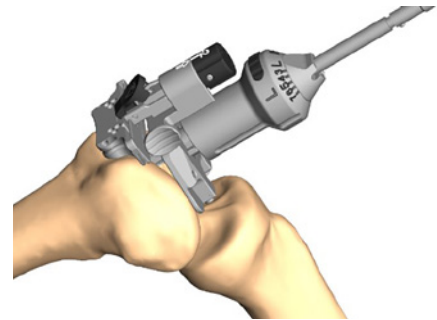

Figure 6
2. Slide the Intramedullary Rod of the alignment assembly into the femoral canal until the Valgus Guide contacts the distal femur (Figure 6).